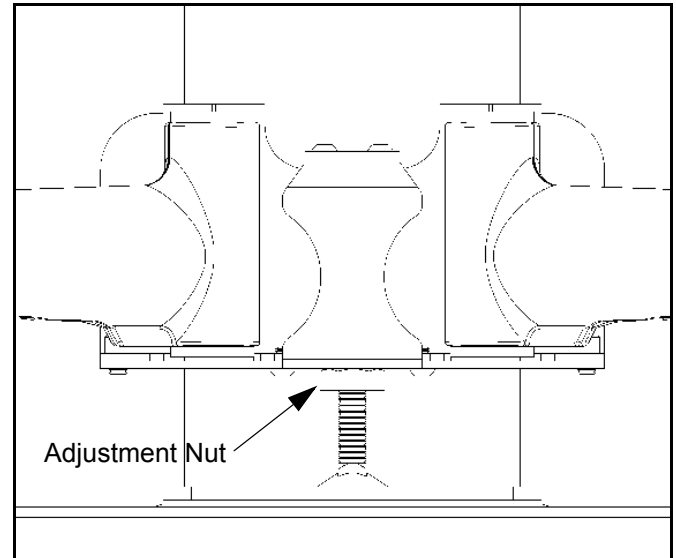

Figure 4: Adjust PNR Height
1. Check PNR for the desired height. If needed, use the adjustment wrench (40) to adjust the PNR height.
- Turn adjustment nut (see Figure 4) clockwise (CW) to lower the unit height, or